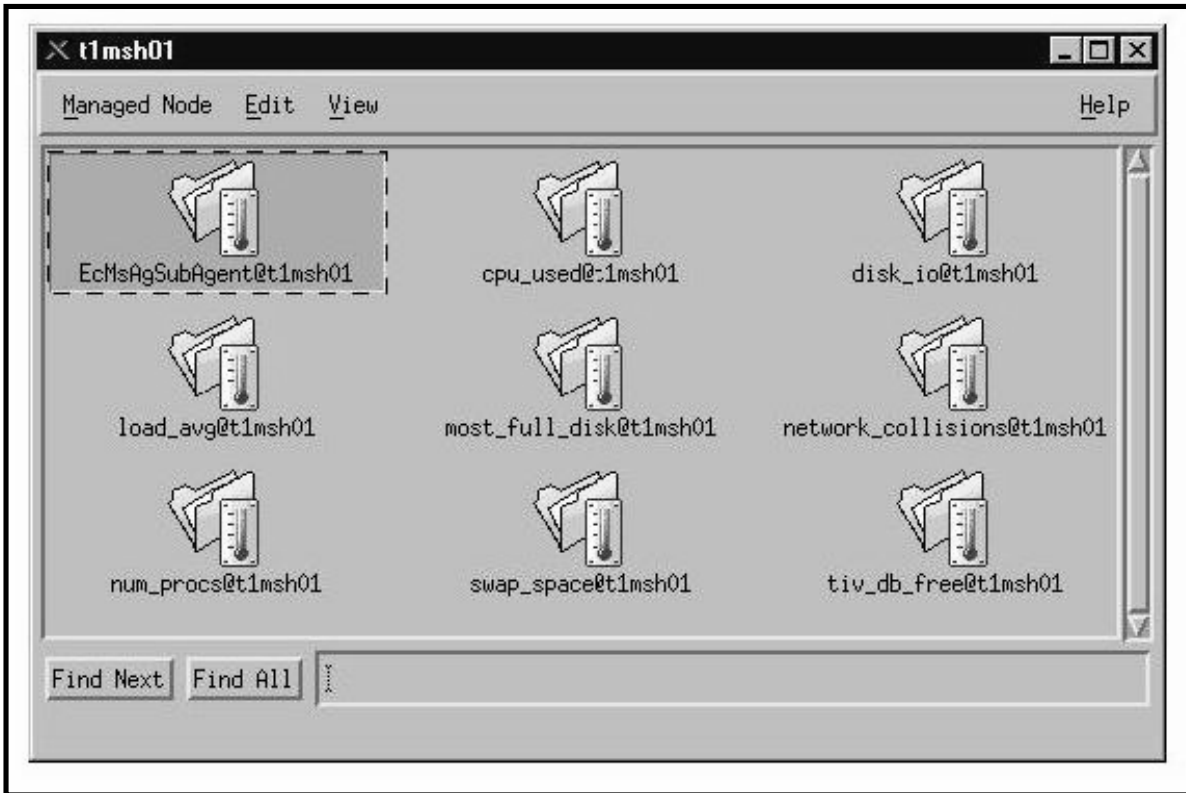

Figure 15. Monitor Profiles active for t1msh01
Administrators can also determine monitor profiles assigned to specific hosts. Figure 15 shows a portion of the monitor profiles active on host t1msh01 in the VATC.
- A scrollable window of Monitor Profiles is displayed (Figure 15).